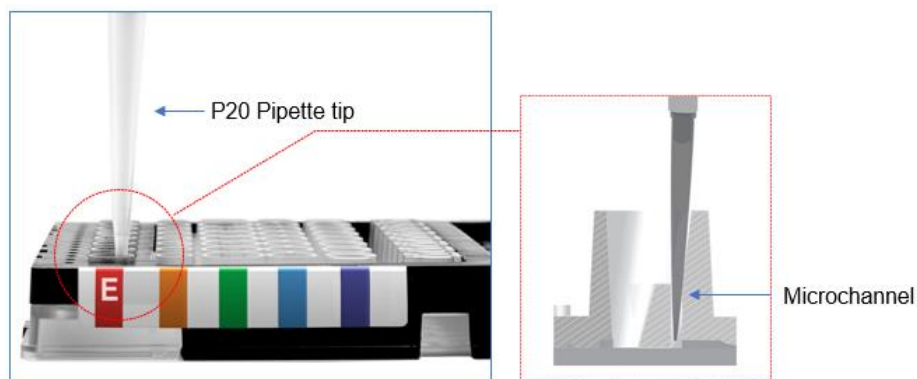

Figure 8. Recovery of any remaining RNA from the Extraction Well microchannel
- Using a P20 pipette set to 10 μL , aspirate any remaining RNA extract from the microchannel on the right side of the Extraction Buffer well and combine with the extract from Step 2. See **Figure 8**.